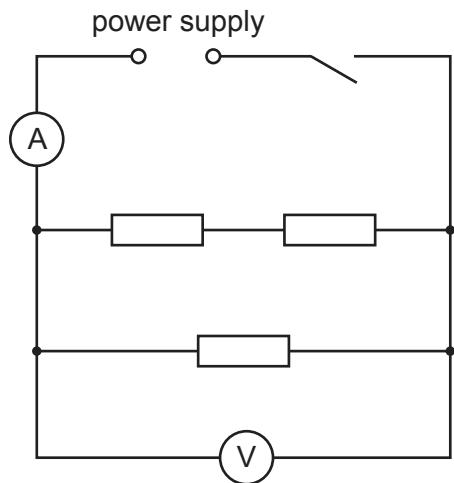

Fig. 2.1
- sufficient connecting leads to set up the circuit shown in Fig. 2.1 (see Note 3)
3 The circuit is to be set up for candidates as shown in Fig. 2.1, using the resistors. The lamps must be placed on the laboratory bench together with the one extra connecting lead, placed close to the circuit.
Reconnect the circuit as shown in Fig. 2.1.